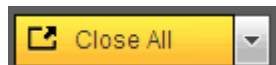

Figure 5-10
- Section 2: There are channel number and one button: Start all. Start all button is to enable/disable all-channel real-time monitor. Click it the button becomes yellow. See Figure 5-10.